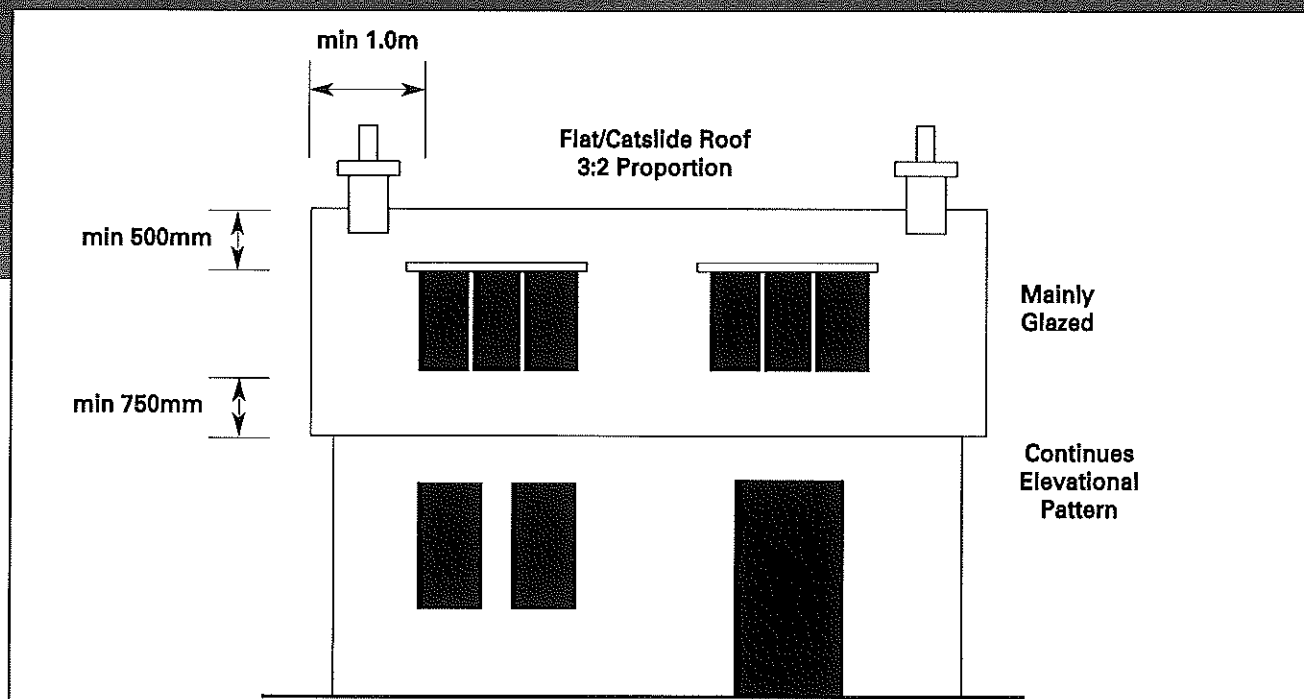

Figure 20 BOX DORMERS - Dimensional/elevational constraints where applicable
- a tidy flat or cat-slide roof (Figure 20)